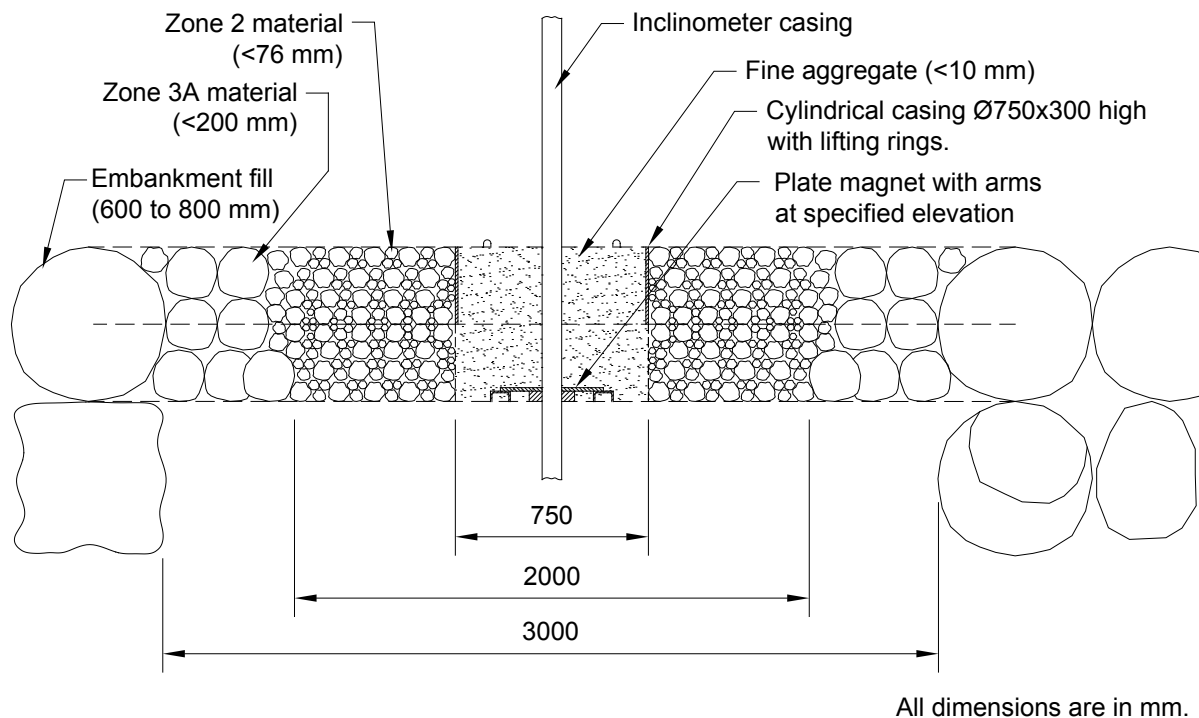

Figure 5.17 Typical details of fill around
inclinometer casing in crest with graded material as per procedure described below. A typical installation is illustrated in figure 5.17.
- h. The sheet steel cylinder is used to place and compact the sand and fine aggregate fill immediately around the inclinometer casing. After the layer is compacted the cylinder is raised up and out of the finished layer in preparation for the next layer. The other two graded zones shown in the figure 5.17 outside the 750 mm diameter cylinder can be carefully hand placed and compacted. It is easier if the outer layer of fill material is placed first followed by the inner layer of fill material.